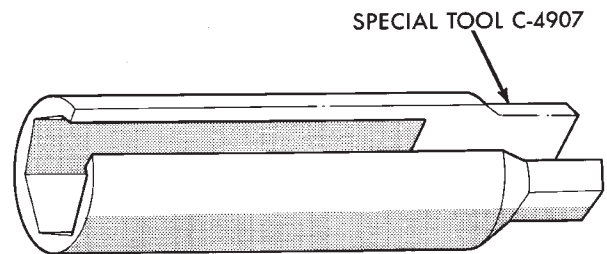

Fig. 9 Oxygen Sensor Socket
- (1) Disconnect oxygen sensor electrical connector.
- (2) Remove sensor using Tool C-4907 (Fig. 9).